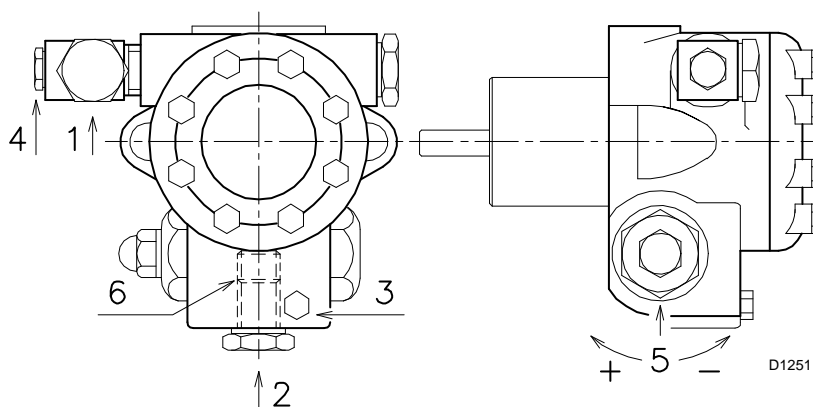

Fig. 19
- In order for self-priming to take place, one of the screw 3) (Fig. 19) of the pump must be loosened in order to bleed off the air contained in the suction line.
In order to adjust pump pressure, use the relevant screw 5) (Fig. 19 pag. 17)